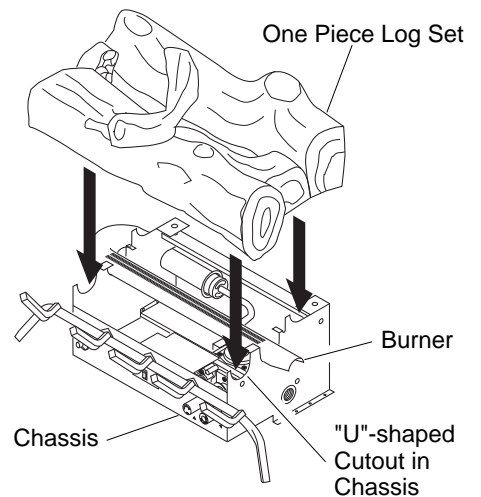

Figure 18 - Installing Vintage Oak One-Piece Log Set
1. Place one-piece log set on grate to fit as illustrated in Figure 18. Make sure middle section at bottom of log set is seated into "U"-shaped cutout in center of chassis (see Figure 18). Log will fit securely on chassis. **IMPORTANT:** Make sure log does not cover any burner ports.